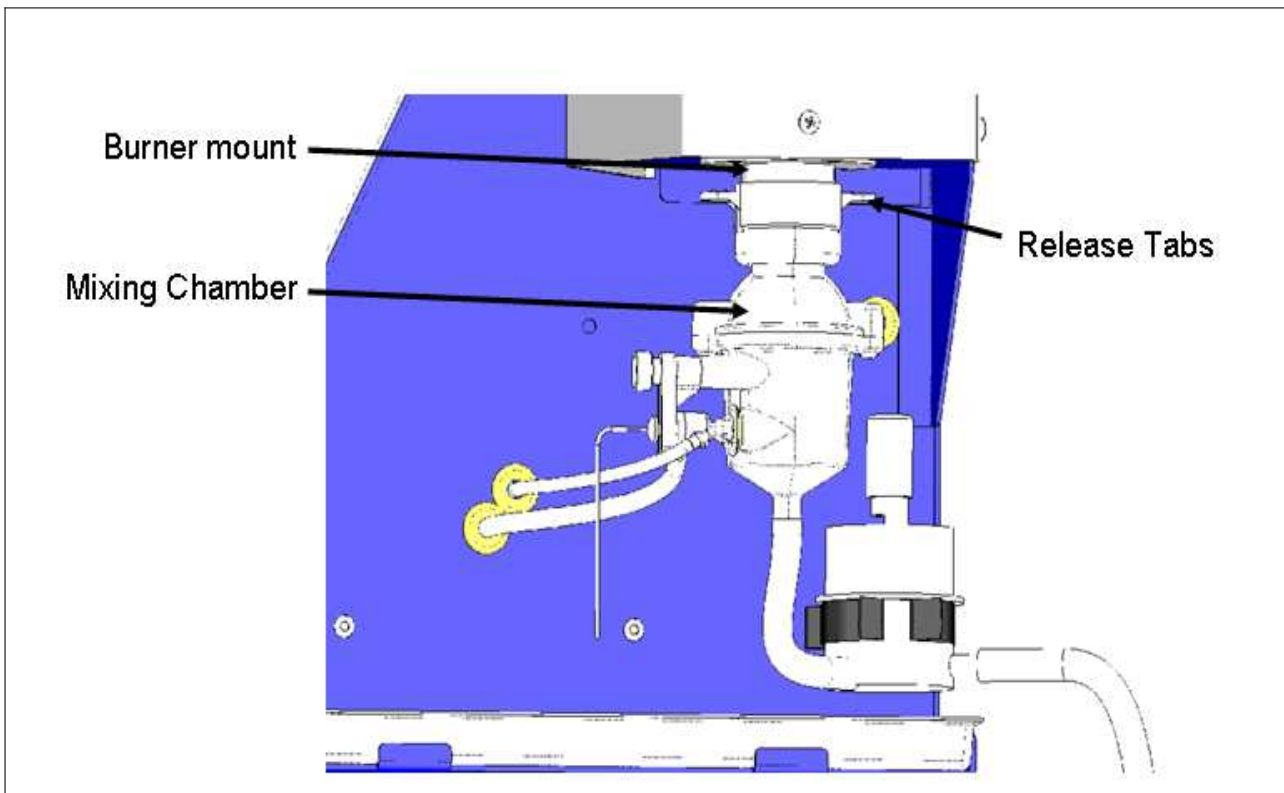

Figure 6.2
- Gently spread the Release Tabs just enough to clear the groove they are in and pull the Mixing Chamber down. See Figure 6.2.